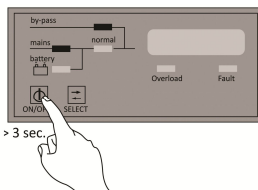
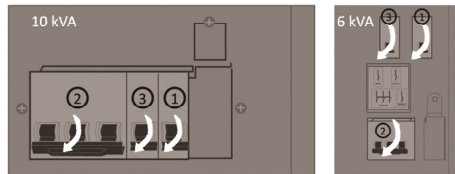
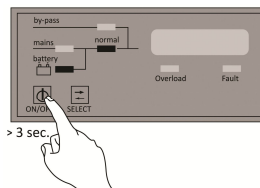

Figure 3.11
Figure 3.12
Figure 3.13
2. **If the UPS is in Bypass Mode:** Press and hold the *ON/OFF* button until the warning beep silences (*Figure 3.11*). Observe that the display is fully switched off. Switch off the output, the battery, and the input CBs in respective order (*Figure 3.12*).
3. **If the UPS is in Battery Mode:** Press and hold the *ON/OFF* button until warning beep silences (*Figure 3.13*). Observe that the display is fully switched off. Switch off the output, battery, and input CBs in respective order (*Figure 3.12*).